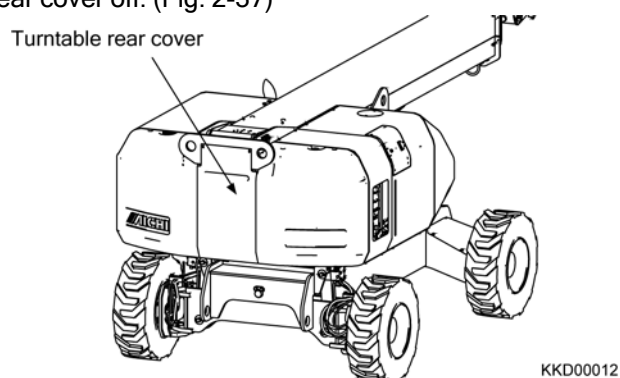

Fig. 2-37
16) Take the turntable rear cover off. (Fig. 2-37)